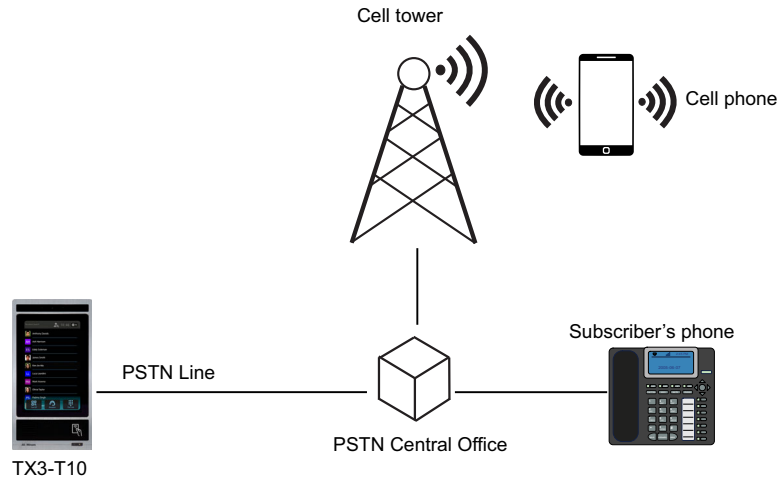

Figure 4. PSTN call
- Figure 4. PSTN call 9
The TX3-T10 makes calls over the PSTN (Public Switched Telephone Network), as shown in figure 4.